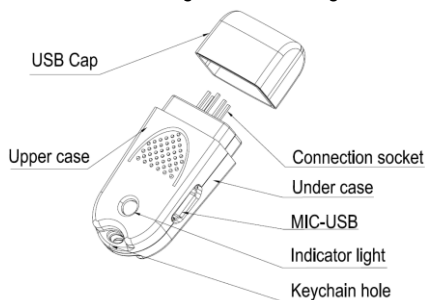

Figure B-1 Uploading and downloading module structure diagram
Uploading and downloading module structure diagram shown in figure B-1:
Step 1: Installing the upload and download module in the inverter control board UP / DOWNLOAD location (As shown in figure B-1).